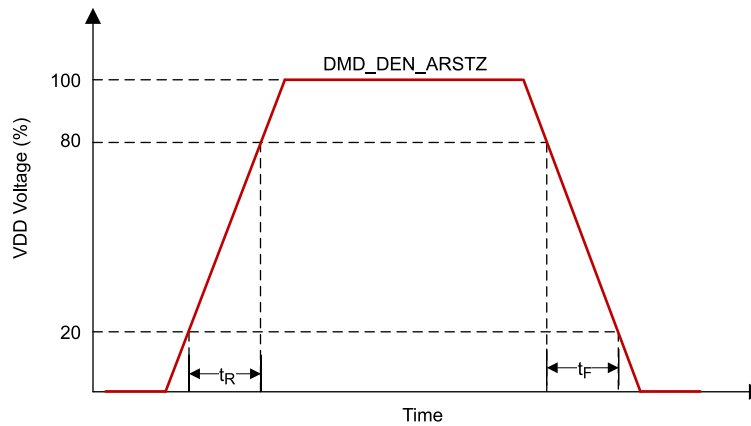

图 6-2. LPSDR Input Rise and Fall Slew Rate
- (1) Specification is for DMD\_DEN\_ARSTZ pin. Refer to LPSDR input rise and fall slew rate in 图 6-2